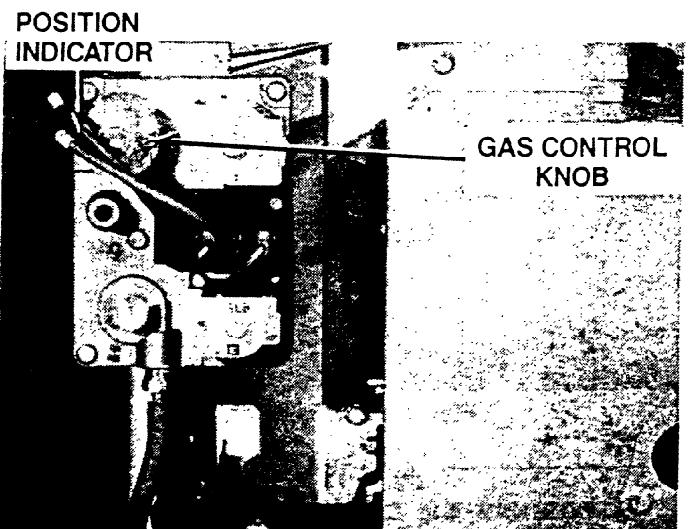

Figure 19.
3. Rotate the gas valve control knob so that "OFF" is aligned with the position indicator shown in Figure 19.